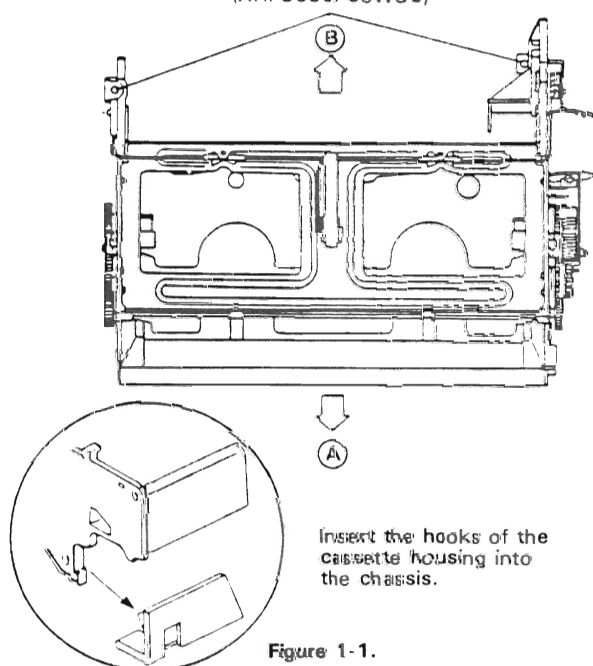

Figure 1-1.
4. Move the cassette housing control assembly (Fig. 1-1) in the direction of arrow \Rightarrow (B), and pull it out straight upward.